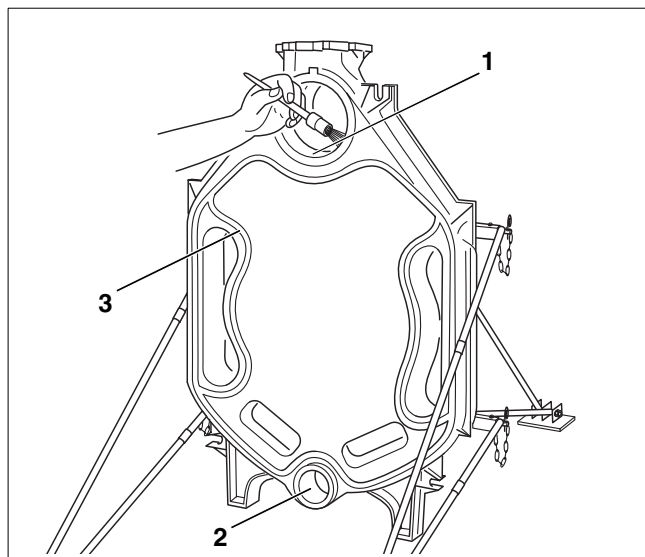

Fig. 10 Preparing grooves for sealing rope and nipple ports
- If the grooves for the sealing rope need cleaning, do so with a wire brush and a rag (Fig. 10, **ref. 3**).
- Clean the sealing faces of the nipple ports (Fig. 10, **ref. 1 and 2**) with a rag soaked in white spirit.